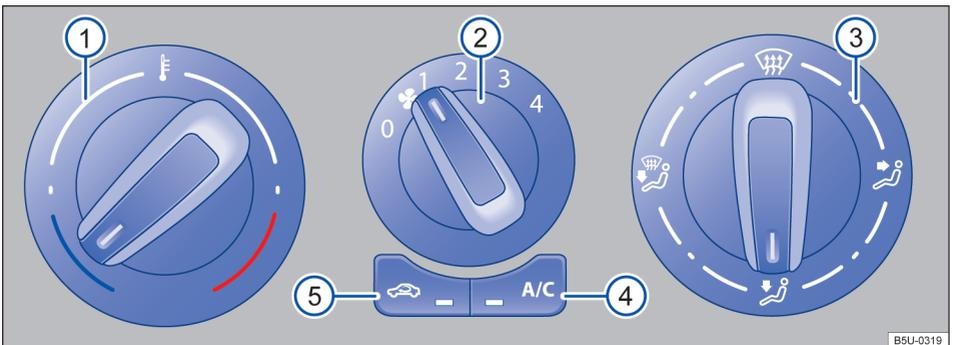

Fig. 76 Air conditioning controls.
- *Air conditioner*: rotate the blower regulator to level 0 → Fig. 76 ②.
- *Air conditioning*: turn the left knob → Fig. 76 ① to adjust the temperature.
- *Air-conditioning*: rotate the blower regulator → Fig. 76 ②.
In air recirculation mode, no fresh air enters the interior of the vehicle → Fig. 76.
- *Air-conditioning*: rotate the right regulator → Fig. 76 ③ to the desired position.
- Move the air recirculation switch → Fig. 76 ③ into position , in this position, the air recirculation is automatically switched off.
- Turn the blower knob ② to level 3 or 4. ▶